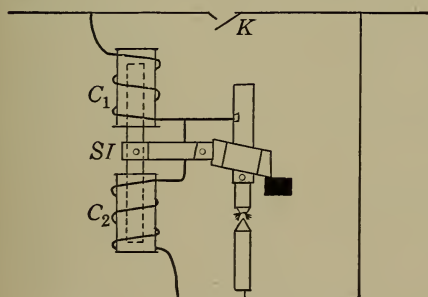

FIGURE 172.—WIRING DIAGRAM OF AN AUTOMATIC ARC LAMP.
The current flows from the line into coil  $C_1$  (Figure 172), and then divides. One part goes to the upper carbon, and the other part goes to the coil  $C_2$ .
**215. The Arc Lamp.** — We have already spoken of the arc lamp (Figure 172), but since it is an application of the heating effect of an electrical current, as well as of an electro-magnet, we mention it here.